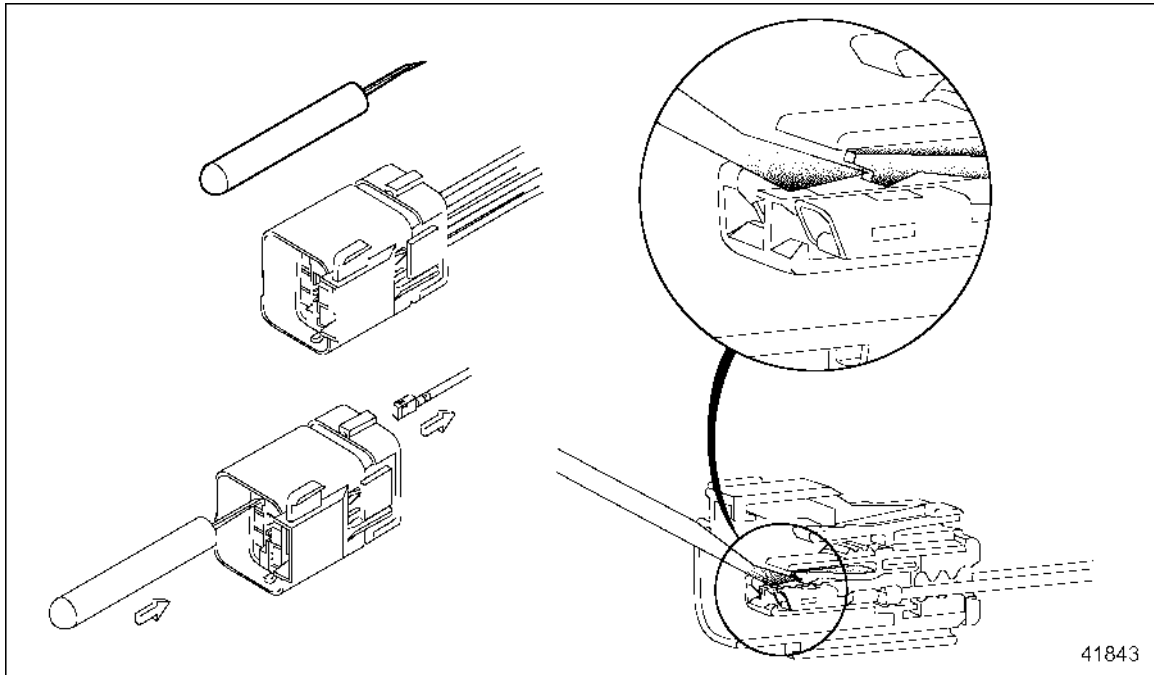

Figure 3-45 Pressing the Locking Tang
2. Using a FCI APEX repair tool (P/N: 54900002) or a #2 jeweler's screwdriver, press back the terminal locking tang (see Figure 3-45).